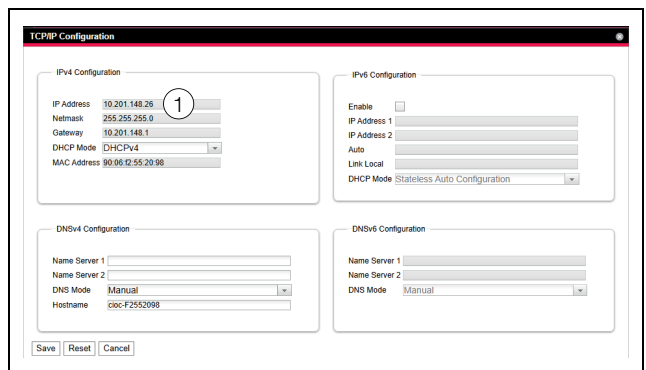

Fig. 59: Adjusting the TCP/IP settings
- In the **TCP/IP Configuration** window, change the device's IP address in the **IPv4 Configuration** group box to an address permitted in the network (fig. 59, item 1).